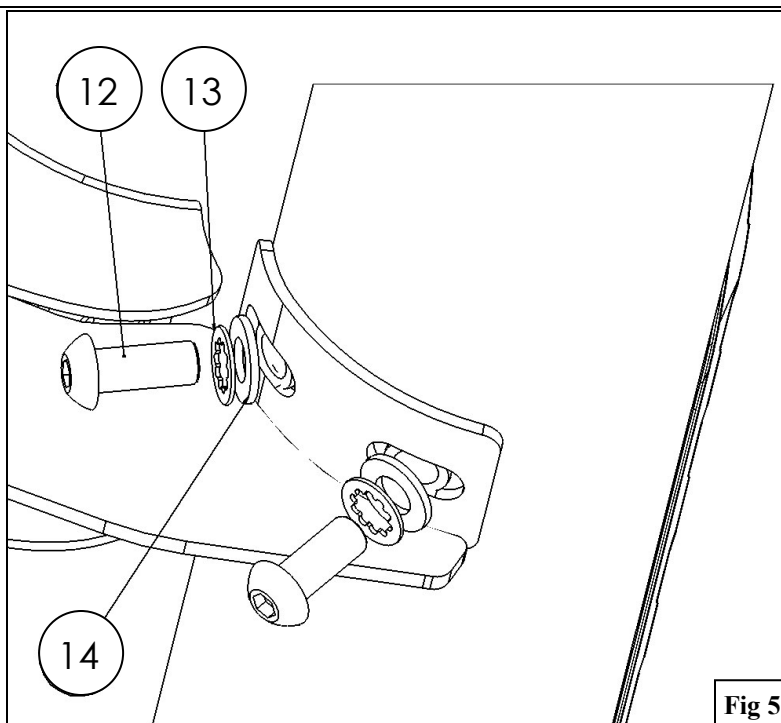

Fig 5
6. Fasten step bars respectively to either side using the included M10 hardware (9-11). See **Figure 5**.